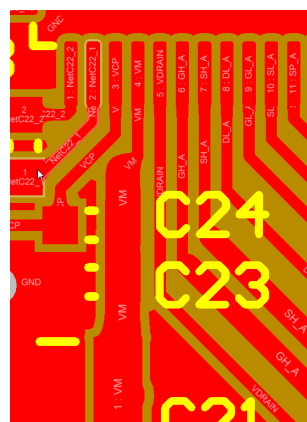
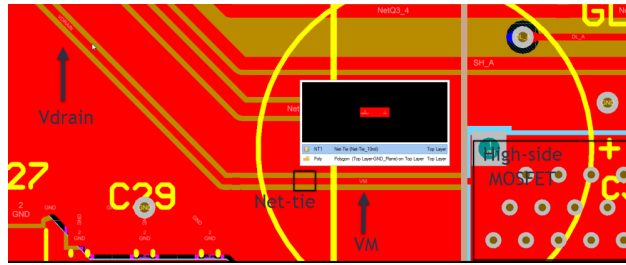

Figure 6-13. VDRAIN Kelvin Connection
Figure 6-14. Net Tie High-Side MOSFET Drain
The VDRAIN pin is used to sense the high-side MOSFET drain voltage. Motor drive devices that have a VDRAIN pin must be routed with some consideration for best performance. Because the voltage supply first goes to the drain of the high-side MOSFETs the routing of the VDRAIN pin is critical to the layout. The VDRAIN pin provides a Kelvin connection for the voltage supply (VM) which allows monitoring the VDS voltage of the high-side MOSFET in the case of an overcurrent event (see Figure 6-13). Because the VM connection in the power stage is usually composed of a large copper plane and wide traces to support the required current, the additional inductance and voltage drops of the plane could affect the VDS measuring accuracy. Therefore, route the VDRAIN pin in a single trace directly to the drain of the external power MOSFETs. TI recommends using a Net Tie close to the drain to minimize additional inductance that can lead to false OCP faults (see Figure 6-14).